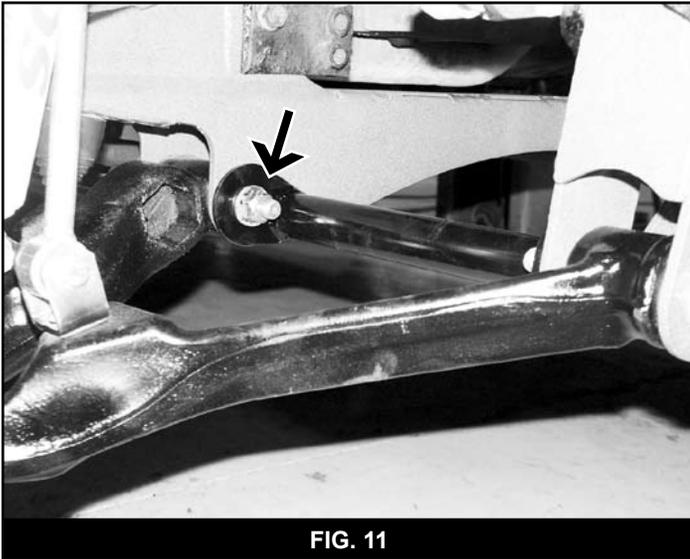

FIG. 11
54. Lower the vehicle to the ground and bounce it to settle the suspension. Torque the lower control arm bolts to 125 ft-lbs. (Fig. 11)